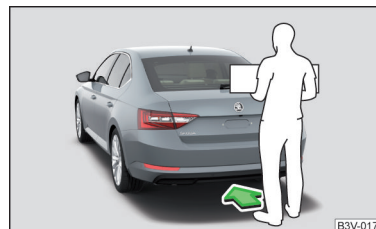

Fig. 59
► To **open/close**, move one foot in the sensor area below the rear bumper quickly in the direction of the arrow » Fig. 59.